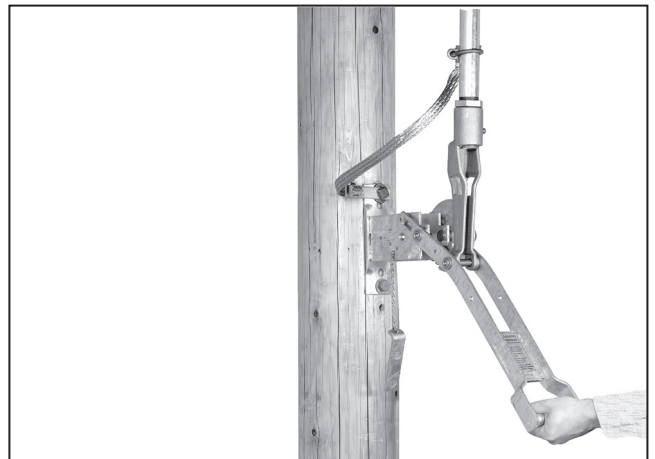

Figure 40. Swinging the operating handle *rapidly*.
- (b) Swing the handle *rapidly* to the fully **Open** or fully **Closed** position. See Figure 40.